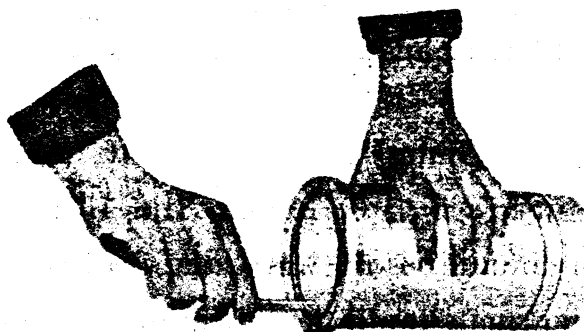

Fig. 12 Checking the piston ring gap
G. A new piston ring should be able to slide freely along the ring groove due to its own weight. The ring gap should be measured with a feeler while the ring is placed into the liner (Fig. 12). If it doesn't conform with the specified value (for the first compression ring is 0.30—0.45 mm. for the others are 0.25—0.40 mm), it can be filed with a fine file.